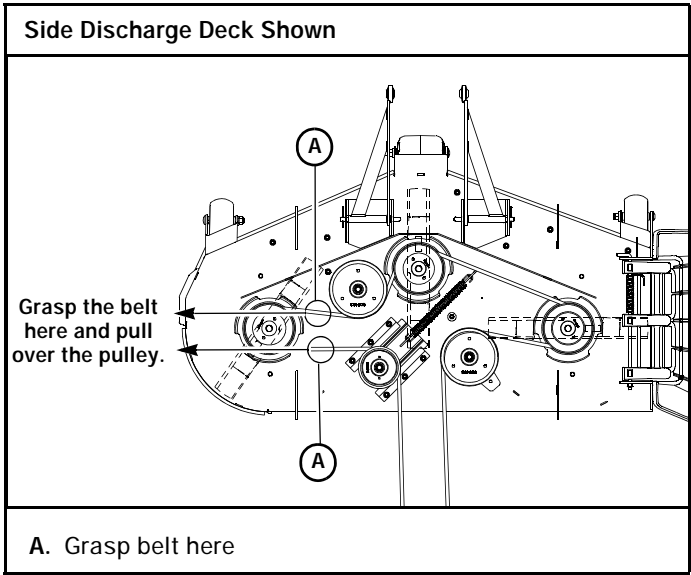
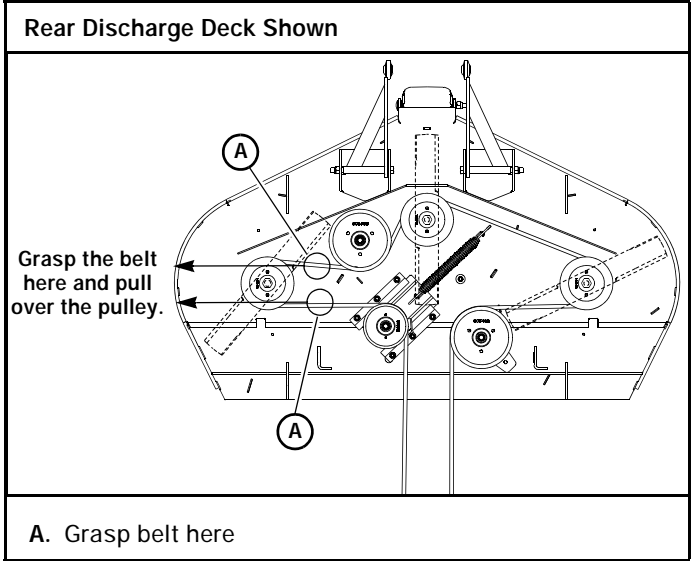

Figure 6-10
Figure 6-11
2. Grasp the belt at the two locations shown and pull the belt over the left spindle pulley. Figure 6-10 & Figure 6-11